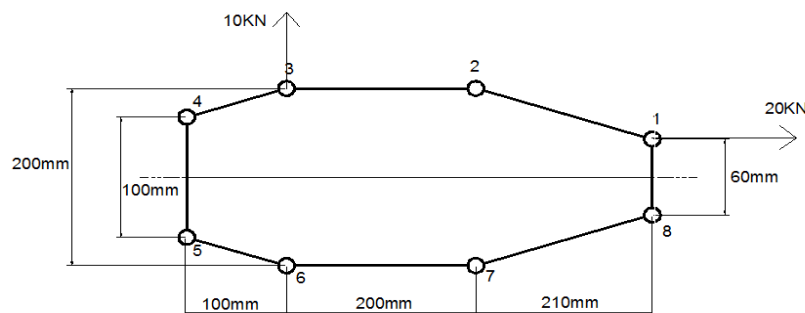

Figure 1A
- 1A.** The thin walled single cell beam shown in figure 1A has been idealized into combination of direct stress carrying booms and shear stress only carrying walls. If the section supports a vertical shear load of 10kN and 20 KN acting in a vertical & horizontal plane, calculate the distribution of shear flow around the section. $B_1=B_8=150\text{mm}^2$, $B_2=B_7=160\text{mm}^2$, $B_3=B_6=210\text{mm}^2$, $B_4=B_5=130\text{mm}^2$ (06)